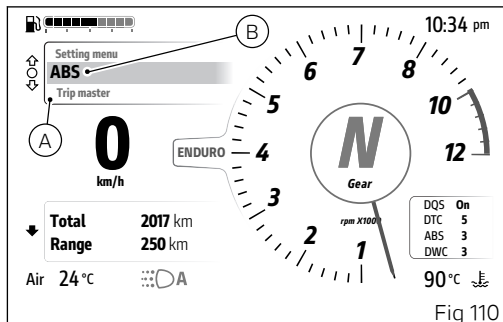

Fig 110
- Select the Interactive Menu (A, Fig 110) by pressing and holding button (1) pressed for a long time.